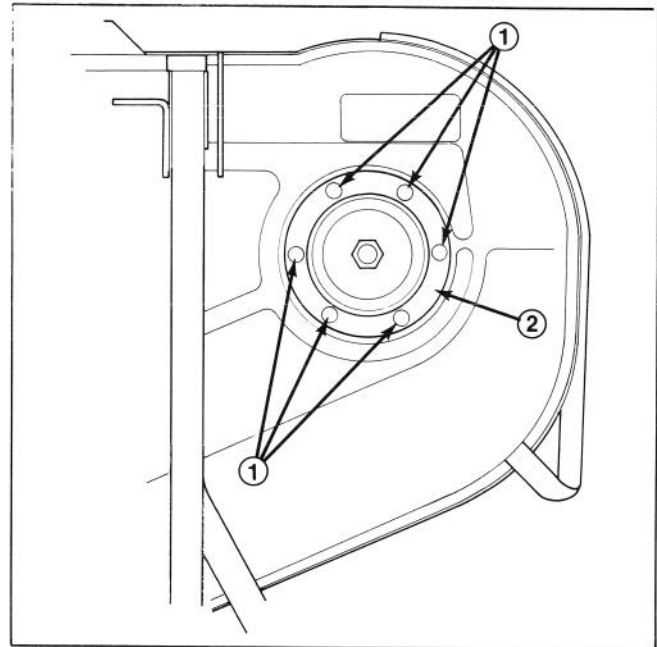

Figure 37
5. Remove six carriage bolts and flange nuts holding spindle housing assembly and support ring against cutting unit (Fig. 37). Slide spindle housing assembly out bottom of cutting unit.
9. Slide pulley end of spindle assembly through hole in cutting unit. Mount spindle assembly in place with support ring and six carriage bolts and flange nuts (Fig. 37).